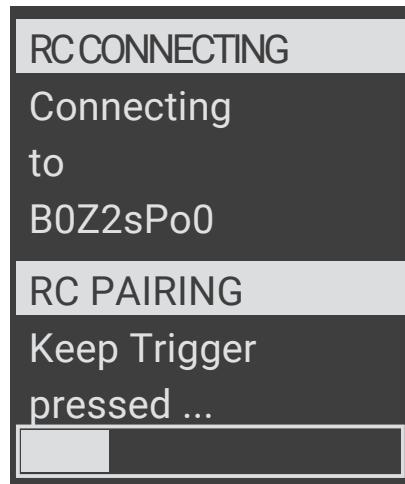

Figure 15
5. When prompted by the tool screen, press and hold EXTEND until prompted. The pairing is complete with the blue LED stops flashing and remains solid. (Fig.15)